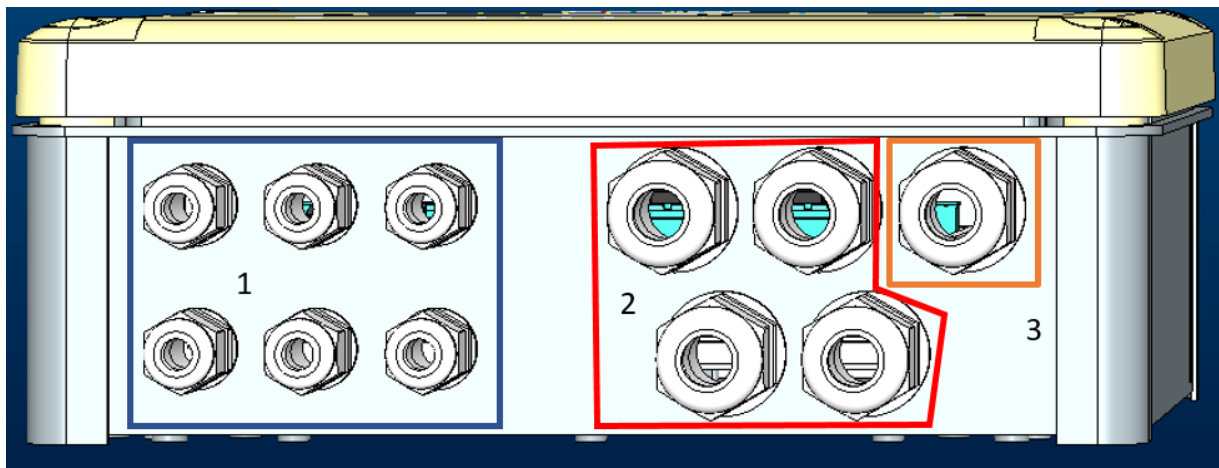

Figure 1: Front view of cable glands
1. Insert the cable in the cable gland shown in Figure 1, circled in orange (Cable gland 3)
Depending on the application, the user can make other electrical connections, see Figure 1.